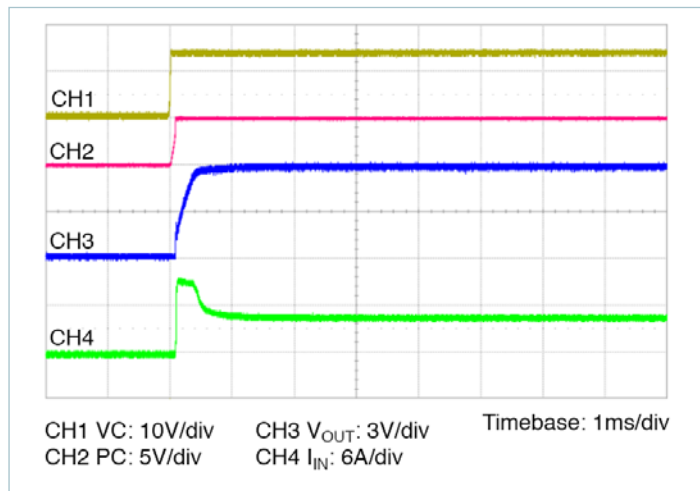

Figure 14 — Start up from application of V_C ; V_{IN} pre-applied $C_{OUT} = 4000\mu\text{F}$
- **Standalone operation (VC applied after V_{IN}):** In this case the VTM output will begin to rise upon the application of the VC voltage (See Figure 14). The Adaptive Soft Start Circuit may vary the output rate of rise in order to limit the inrush current to its maximum level. When starting into high capacitance, or a short, the output current will be limited for a maximum of 120μs. After this period, the Adaptive Soft Start Circuit will time out and the VTM module may shut down. No restart will be attempted until VC is re-applied or PC is toggled. The maximum output capacitance is limited to 4000μF in this mode of operation to ensure a successful start.